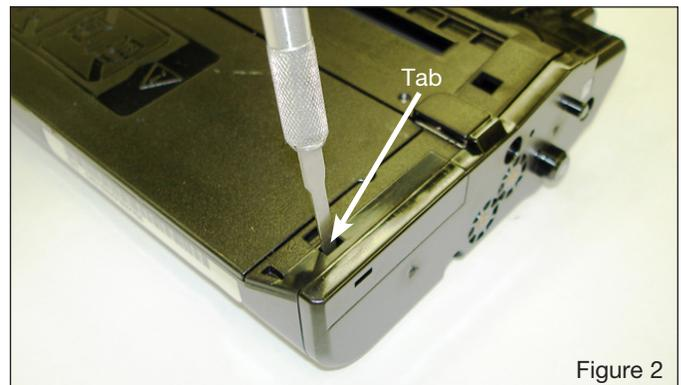

Figure 2
2. Using a small slotted screwdriver or the felt scraper tool, release the locking tab on the contact side end plate. Insert the head of the screwdriver into the slot shown in Figure 2 and press down on the tab. This will release the end plate from the cartridge.